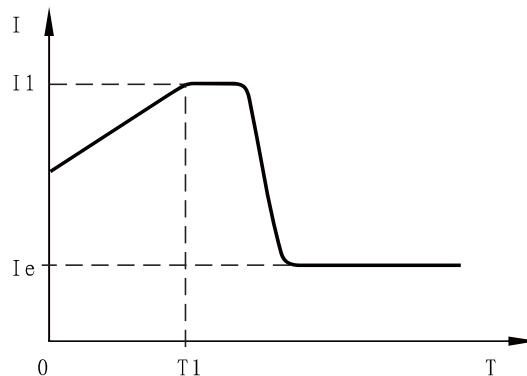

Figure 12-4-1
- a) The motor will be under current starting mode when code F9 is set to 4(current ramp). Figure 12-4-1 shows the output current wave of the current ramp starting mode, I1 is the time value set by code F1.